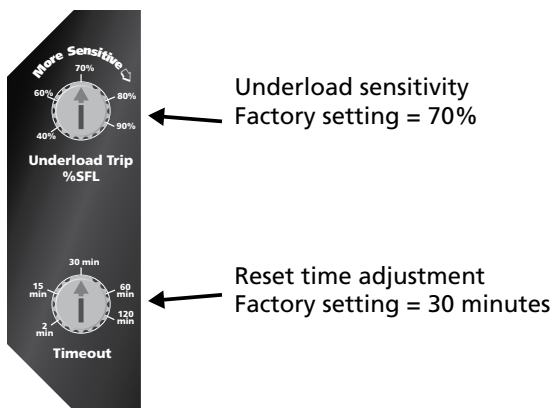

Figure 4: Time-out and Trip Sensitivity Settings
- Set the time-out adjustment to the desired position. The factory setting is 30 minutes (See Figure 4).